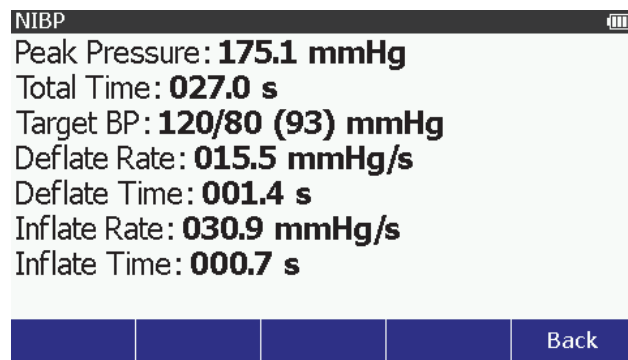

Figure 34. NIBP Summary Screen
3. Push the **Summary** softkey to show the blood pressure measurements in Figure 34 on the display.